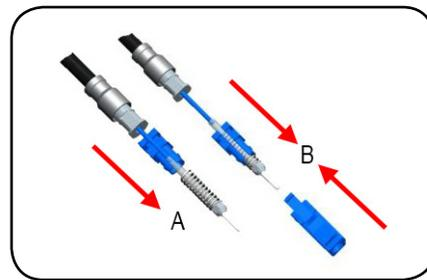

Figure 2
A. Slide the inner clip over the fiber (**Figure 2**).